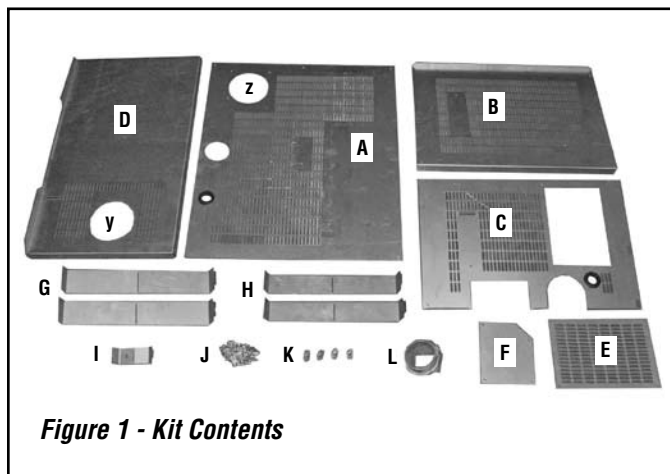

Figure 1 - Kit Contents
KIT CONTENTS (See Figure 1):
Note: Top or rear vent? If you will be venting out the top then you will install the block off plate (F in Figure 1) onto the lower back panel (A) in the spot that is marked "z" in Figure 1. If you are venting out the back you will install the block off plate (F) onto the top panel (D) in the spot that is marked "y" in Figure 1. You will use four of the sheet metal screws provided to attach the block off plate (F).